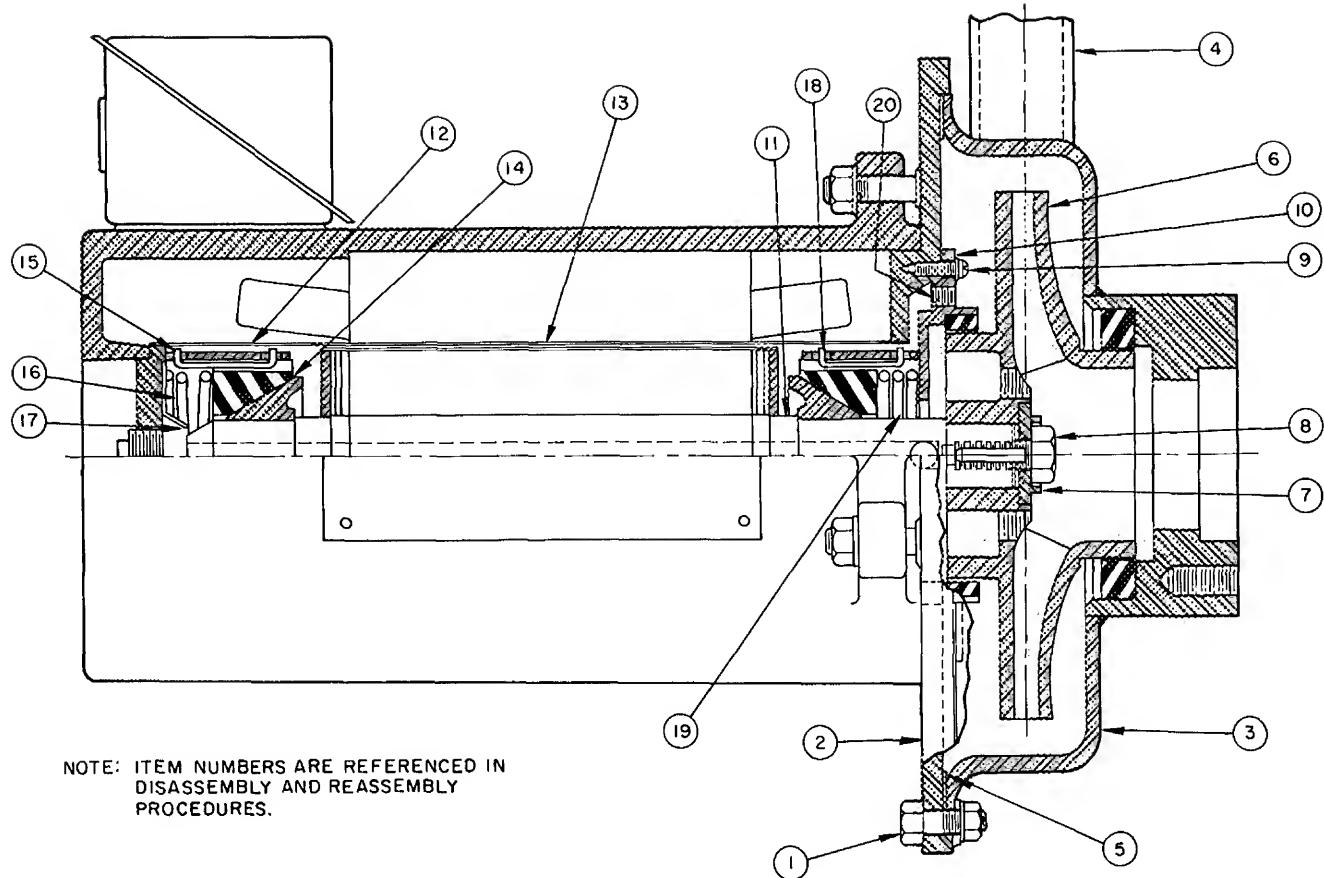
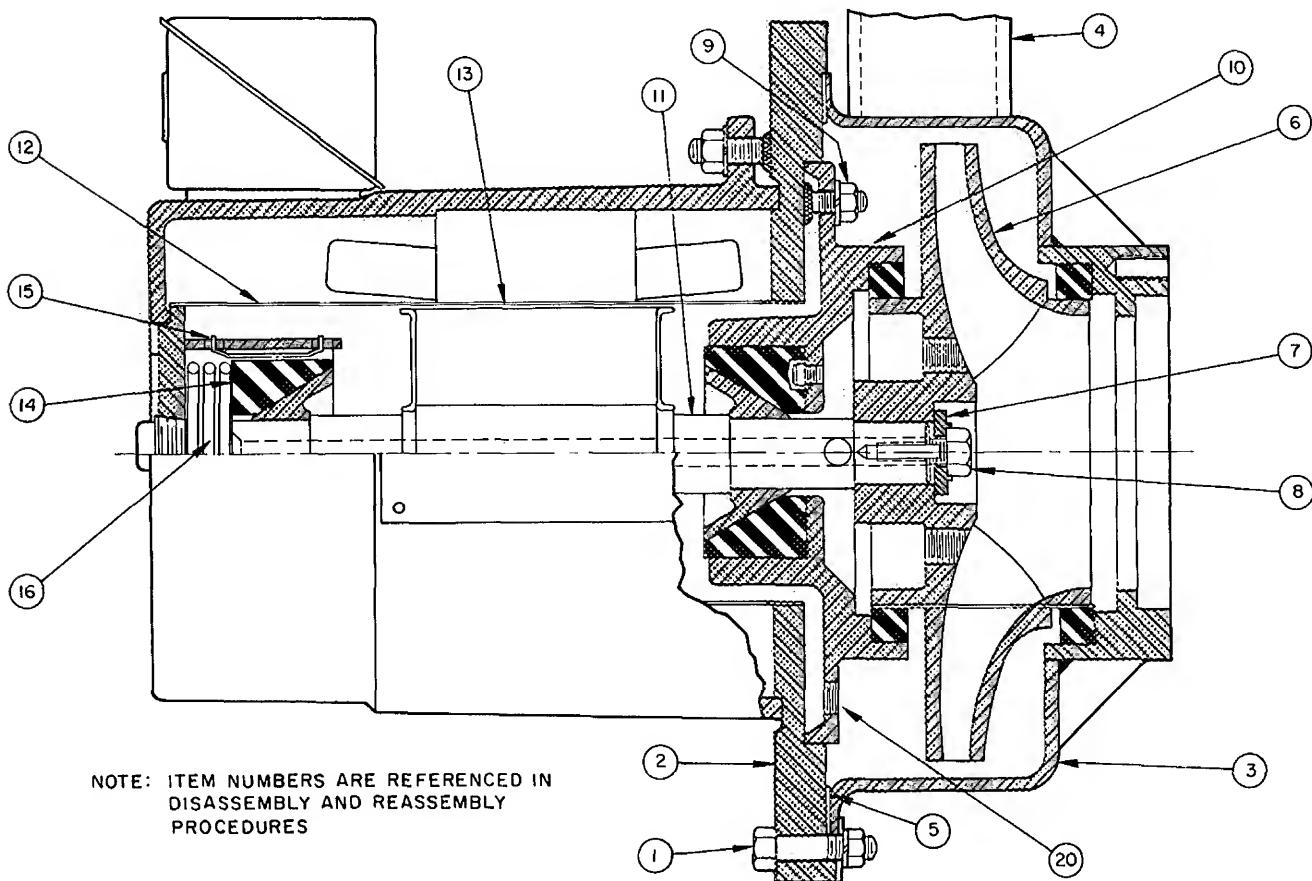

Fig. 2 - F-8 Frame Pumps
Fig. 3 - F-66 Frame Pumps
DISASSEMBLY PROCEDURES - Refer to Fig. 2 and Fig. 3.
3. Pull stator and adapter flange straight back from pump casing. If paint has frozen flange to casing, gently pry between adapter flange and pump discharge pipe (item 4) until paint seal is broken.
4. Remove and discard gasket (item 5).
5. Remove impeller (item 6) by straightening locking tabs on impeller lock washer (item 7). Prevent impeller from rotating while removing locking bolt (item 8). Remove impeller key in the shaft.
- a. F-8 Frame Pumps (Fig. 2) - Unbolt cap screws (item 9). Remove bearing and wearing ring housing (item 10).
- b. F-66 Frame Pumps (Fig. 3) - Remove stud nuts (item 9). Use jacking screws to loosen bearing and wearing ring housing (item 10). Insert jacking screws in tapped holes provided in wearing ring housing.
7. Slide out rotor (item 11) carefully, so as not to damage the stator can (item 12), rotor can (item 13), or motor end bearing (item 14).
8. Remove motor end bearing, retaining clip (item 15) and spring (item 16). Remove spring bearing plate (item 17) used on Frame F-8 only.
REASSEMBLY PROCEDURES - Refer to Fig. 2 and 3.